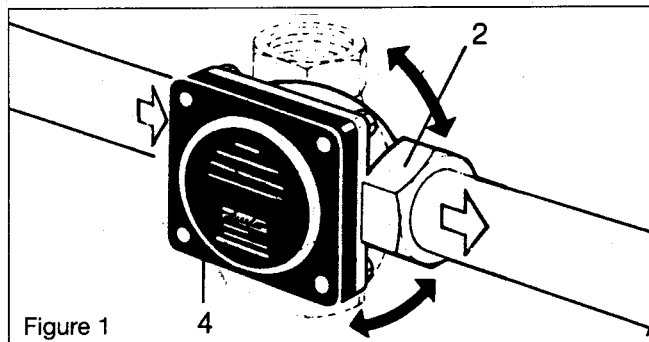

Figure 1
The BioQuell-K is connected by means of the mounting kit JUDO-Quickset-E. This kit consists of the rotary flange (2), the annular joint and the assembly cover (4). The rotary flange, suitable for both horizontal and vertical tubings, has to be installed in flow direction which is marked by a casted in arrow. The flange surface of the rotary flange has to be in vertical position. The tubing can be squeezed. The assembly cover (4) is then screwed on prior to the final assembly (Figure 1).